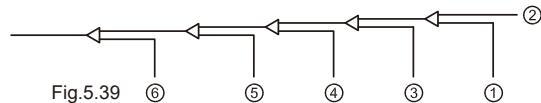

Fig.5.39
8.Flush the other openings in the same manner, working in sequence from indoor unit A towards the outdoor units. Refer to Fig.5.39